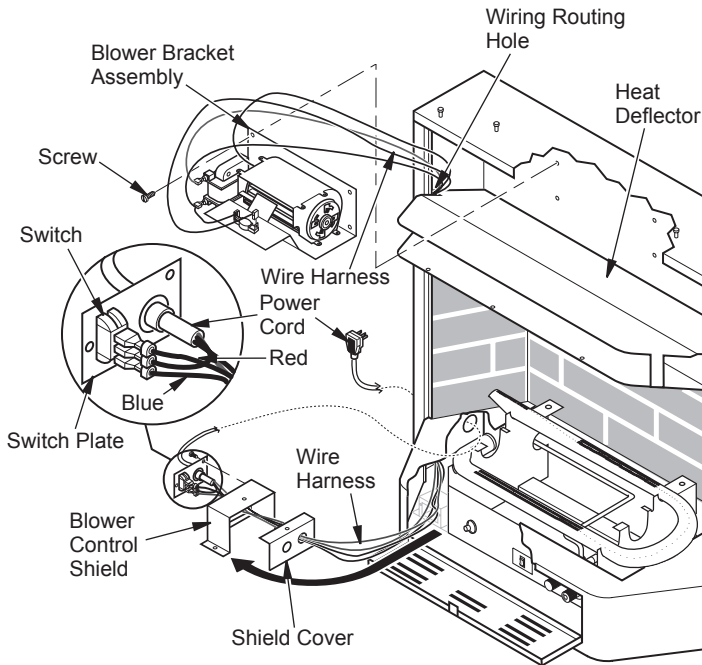

Figure 15 - Installing Blower Bracket Assembly
4. Note the wire locations on back of AUTO/OFF/ON switch. Carefully remove red wire from the AUTO terminal and blue wire from the ON terminal. Black wire can remain on the middle or OFF terminal (see Figure 15, page 13).
6. In top of the heater cabinet, locate the four mounting holes on the outer casing. Align these four holes with those on the blower bracket assembly to the outer casing with 4 - #10 screws provided (see Figure 15, page 13).
7. Route the wire harness through the hole to the left side of heat deflector. Pull wire harness through lower opening to the left of the blower control shield. (see Figure 15, page 13).
- Insert the 4 wire harness into one of the round holes in the rear of the blower control shield and through the rectangular hole in the front of shield (see Figure 15).
ure 16). Route power cord out of the cabinet by inserting it through the bushing on the outer casing (see Figure 15). Plug fan kit into 120-Volt grounded power supply and test operation. **Note:** When switch is in the AUTO position, the fan will start after the heater has run for a few moments. The fan will continue to run for several moments after the heater has been turned off. When switch is in the ON position, the fan will run until turned off. Reinstall hood assembly and close lower louver door.